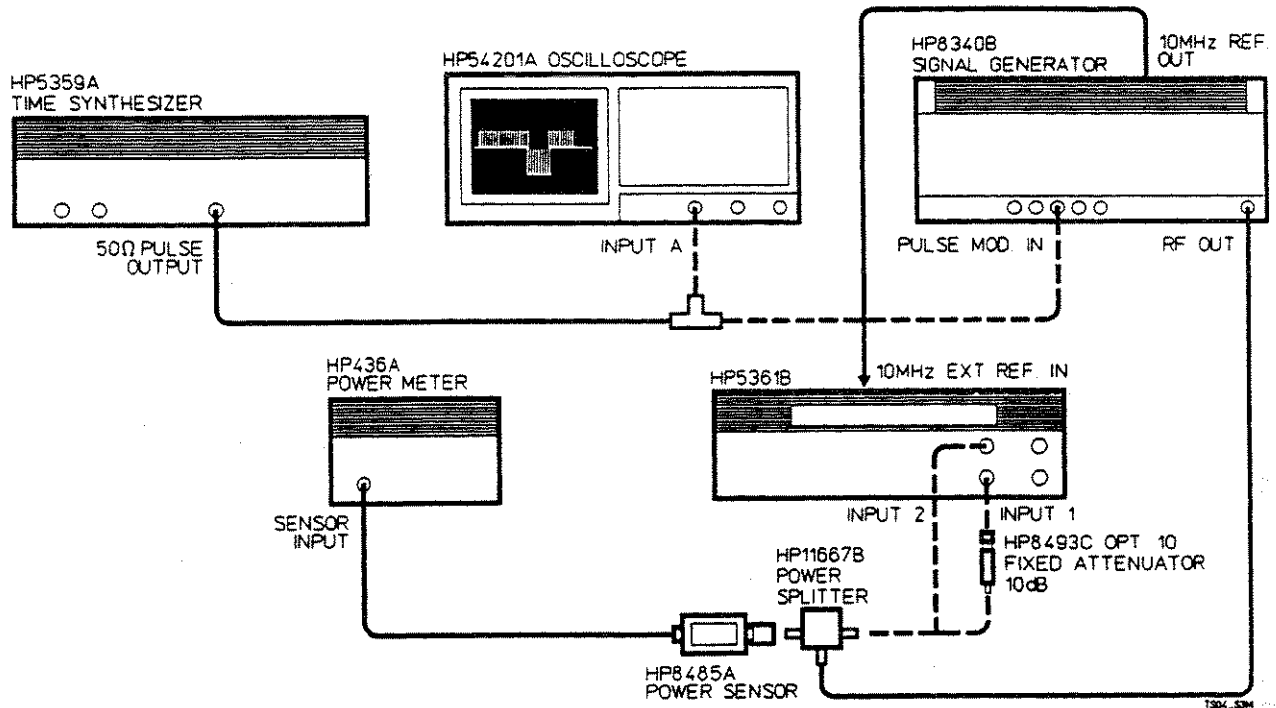

Figure 1-1. Setup 1: CW/Pulse, 10 MHz - 26.5 MHz
Description: The counter is set to the 10 MHz - 525 MHz range, 50 Ω impedance, and a 25 mV rms (-19.3 dBm) signal is applied to Input 2 as shown in *Figure 1-1*. The test generator is set to selected frequencies and the 5361B is checked for proper
Description: The counter is set to the 500 MHz - MAX GHz range and the appropriate input signal is applied to INPUT 1 as shown in *Figure 1-1*. The generator is set to various frequencies/levels and the actual sensitivity of the HP 5361B is then measured.
2. Connect the equipment as shown in *Figure 1-1* (INPUT 1 path). Do not install the 10 dB attenuator pad for CW measurement.
The following specifications, setup illustration, and test steps describe the INPUT 1 pulsed RF sensitivity for the HP 5361B within 500 MHz - MAX GHz frequency range. *Figure 1-1* shows the test setup.